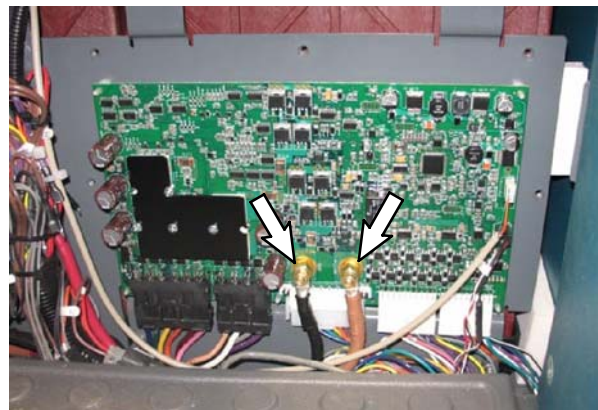

FIG. 3
7. Disconnect the positive and negative cables from the control board. Set the hardware aside. Refer to Fig. 3.